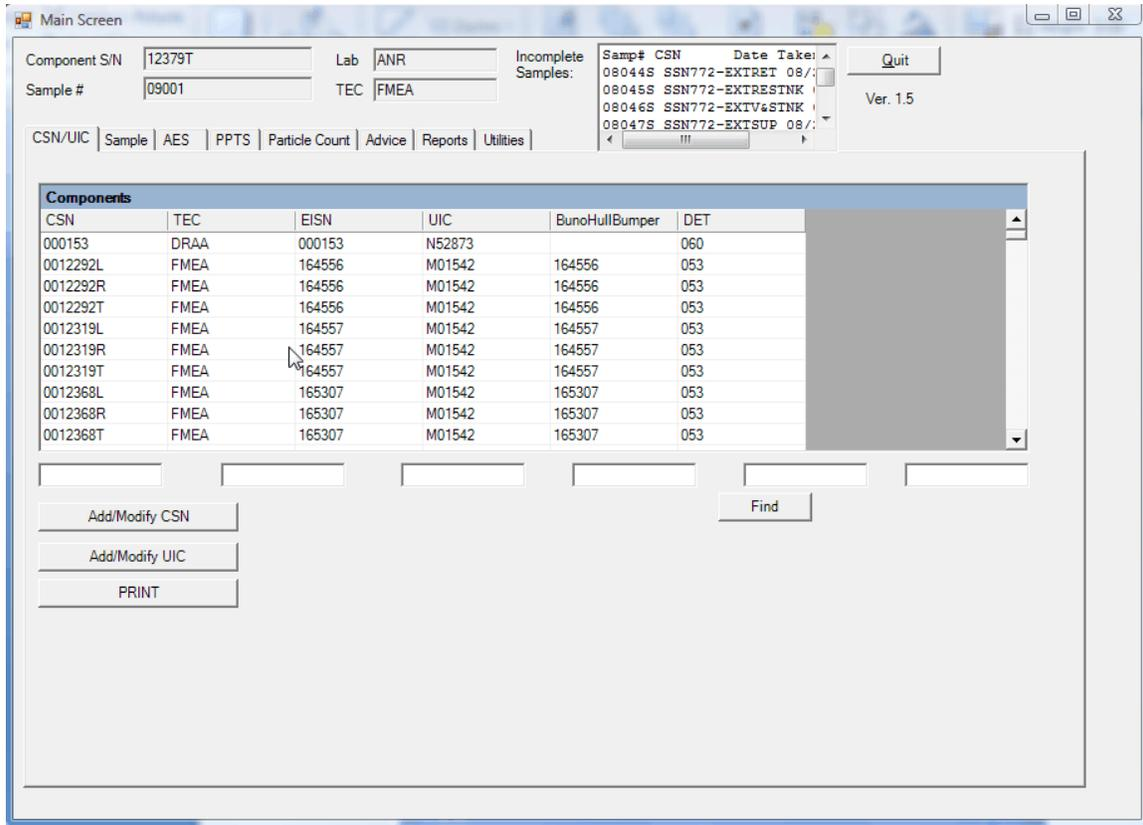

Figure 31. CSN/UIC Tab
- (1) From the main screen press the CSN/UIC tab and the following screen will appear (Figure 31). Adding a UIC is done when you have searched and can't find the UIC and have asked for a transfer disk with no response.